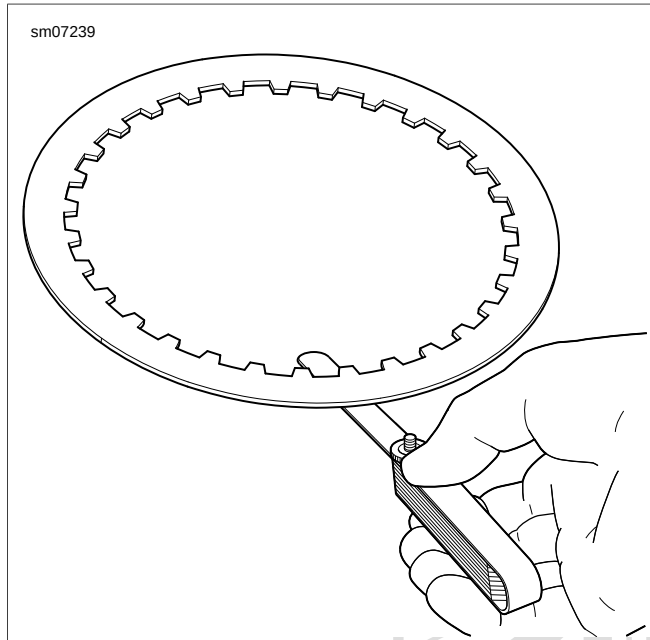

Figure 5-21. Gauging a Steel Plate
2. See Figure 5-21. Inspect each steel plate.